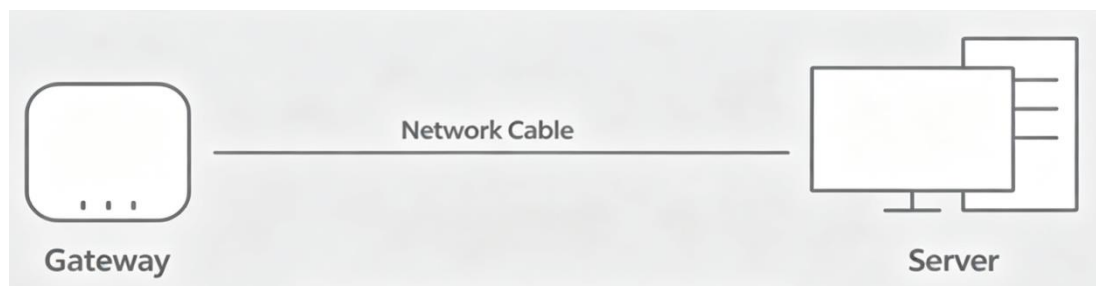

Figure 2.3.1 Direct connection via network cable
- There are two common wired connections between the anchor and the server, as shown in figures 2.3.1 and 2.3.2: